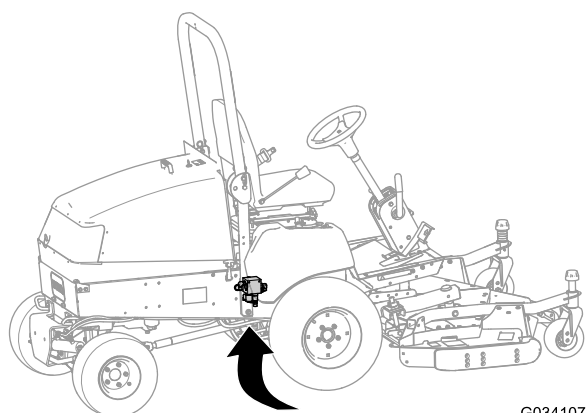

Figure 15
- Locate the lift manifold from under the machine, inboard the right frame channel, behind the front axle (Figure 15).